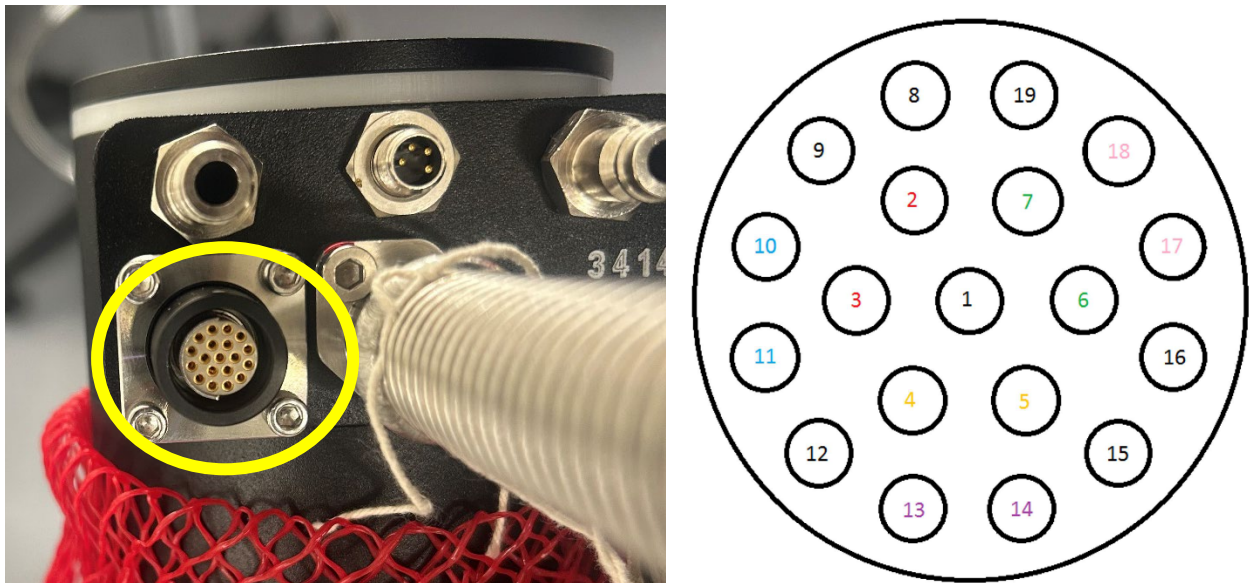

Figure 1 – 1000 Series Coldhead Pinouts
1. With reference to Figure 1, and using the resistance range of the Digital Multimeter, check the resistance of the heaters and sensors components between their **Pin Pairs**. The **Expected Values** are indicated below and are shown for a Cryostream coldhead at room temperature. These values will be different if the coldhead is cold. It is recommended that the coldhead is allowed to warm up, first.